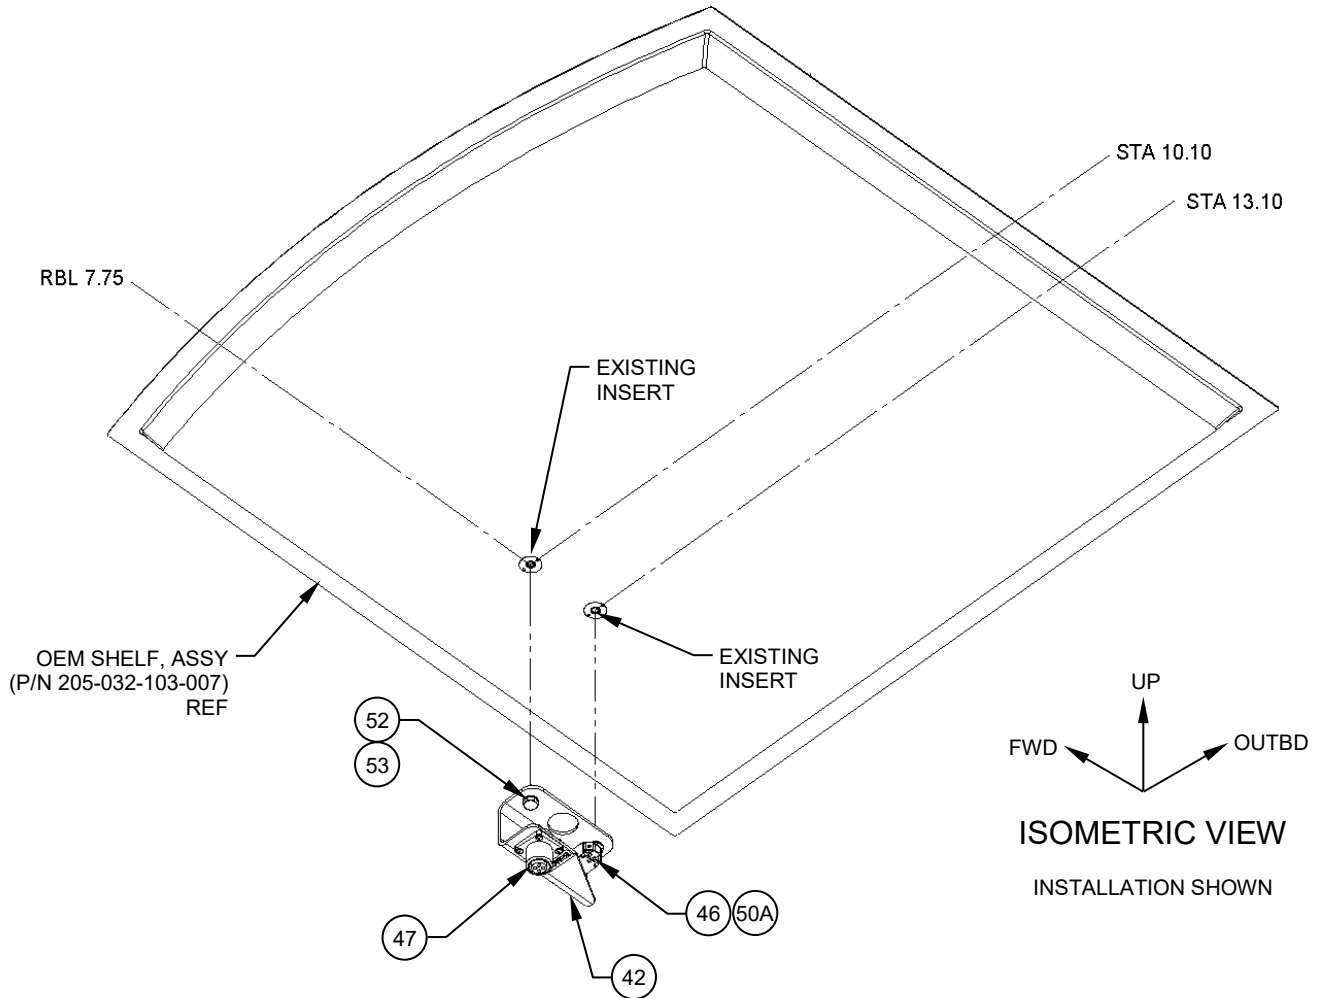

Figure 12
22. Install the Bracket, Assy (Item 42) on the lower side of the OEM inverter bay panel assy with the supplied hardware as shown. Reference Figure 12.